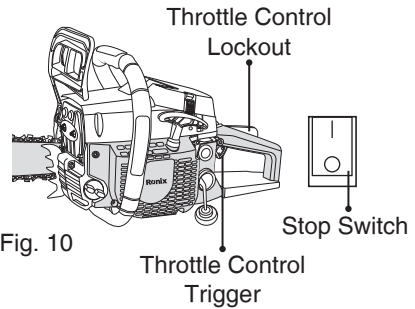

Fig. 10
2. Move the stop switch up to the STOP position (Fig.10).